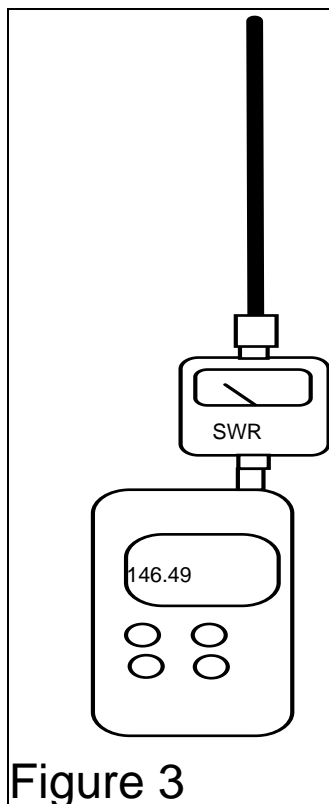

Figure 3
5. To Tune your antenna for 1:1 SWR, use a reflected power meter for VHF or UHF as needed (Fig 3). Do not use a feed line. Attach the Antenna and HT as direct as possible.